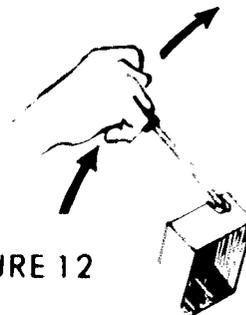

FIGURE 12
c. Wiggle screwdriver until KO pops loose (Figure 12)